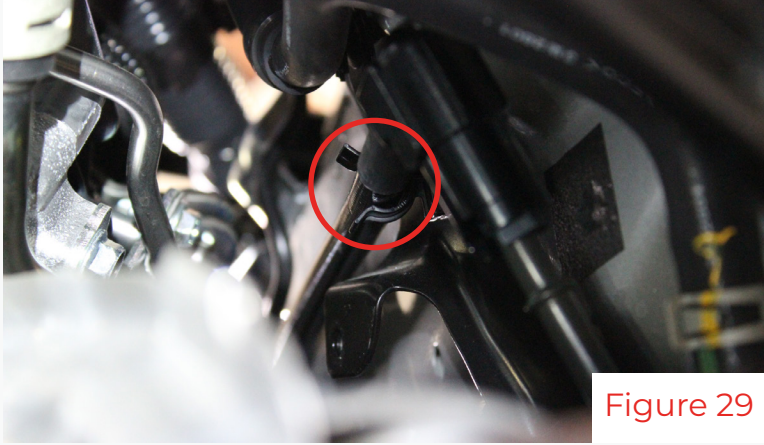
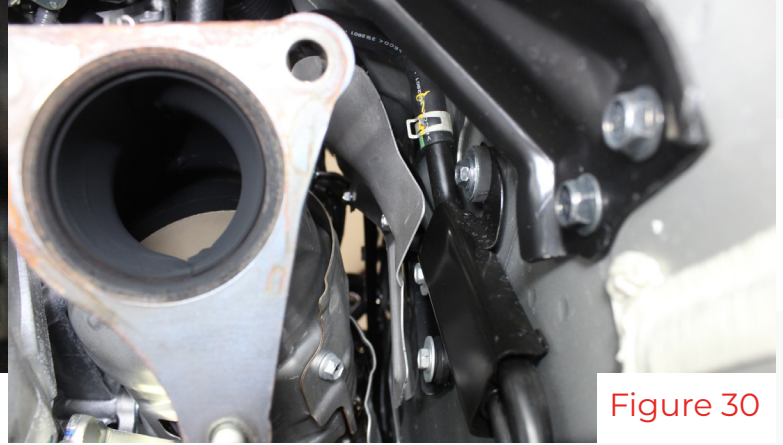

Figure 29
Figure 30
16. Push the new fuel line into the factory clip(fig 29). Reinstall the metal heatshield(fig 30).